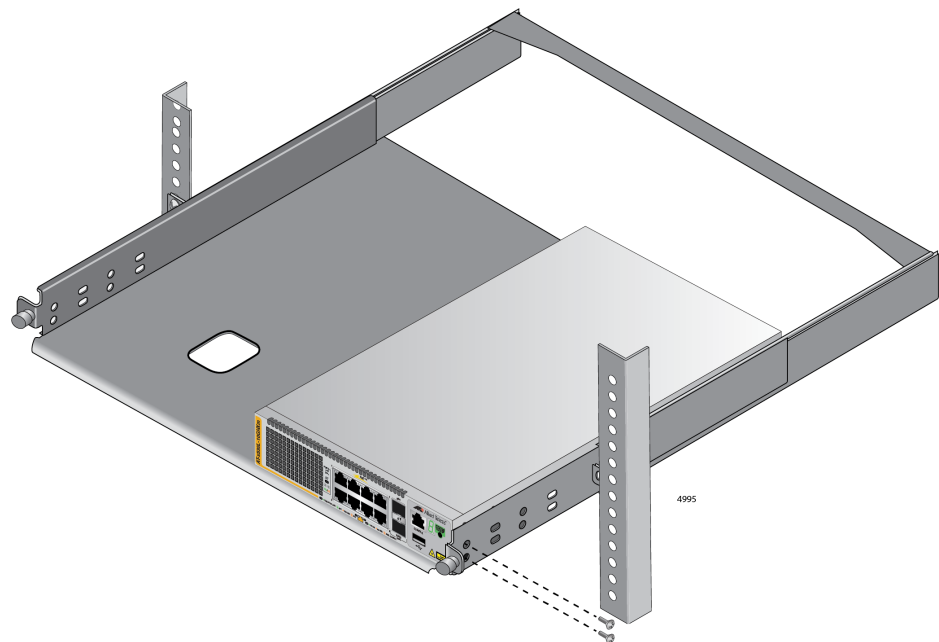

Figure 48. Securing the x530L-10GHXm Switch to the RKMT-J15 Bracket
8. Install two M4x6mm screws included with the RKMT-J15 using the first set of holes to secure the switch to the bracket. Refer to Figure 48.